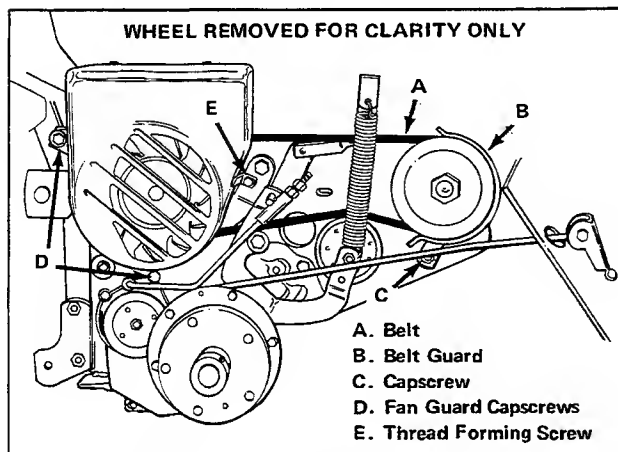

Figure 13. Replacing Drive Belt
If the hydrostatic drive belt (item A, figure 13) becomes worn or breaks, replace it as follows:
3. Remove the capscrew (item C, figure 13) and remove the belt guard assembly (item B).